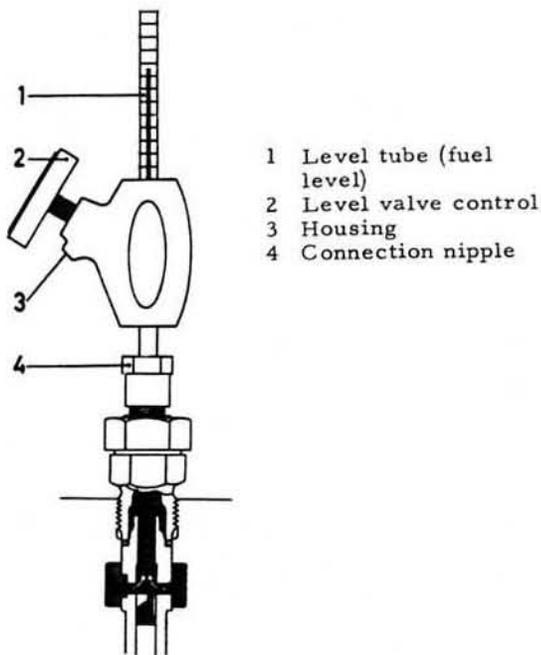

Fig 5 Level control (Wilbär tube)
1. Fit the Wilbär tube on the delivery pipe nipple. Set the pump for maximum feed. Turn the engine over in its correct direction of rotation until the level tube is full of air-free fuel. See Fig 5.